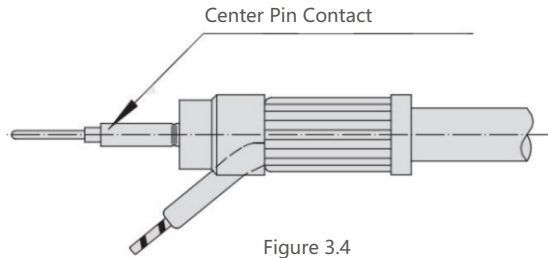

Figure 3.4
④As shown in Figure 3.4, proceed as follows: